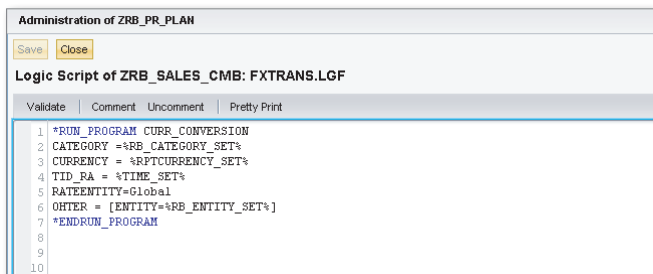

Figure 6.21 Performing Currency Translation—Part B
2. Log in to the SAP BPC Web Client, and connect to the ZRB_PR_PLAN environment. Select the LOGIC SCRIPT view under the RULES domain. Select the ZRB_SALES_CMB model, and click on the OPEN menu option to view and maintain logic scripts. Create a new logic script file with the name "FXTRANS" (Figure 6.21), and enter the following code: